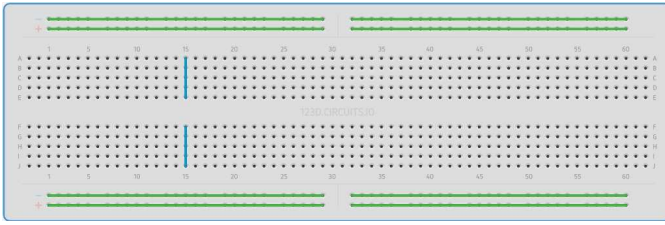

Fig. 2.1
**Problem 2.1.** Plug the display to the breadboard in Fig. 2.1 and make the connections in Table 2.1. Henceforth, all 5V and GND connections will be made from the breadboard.